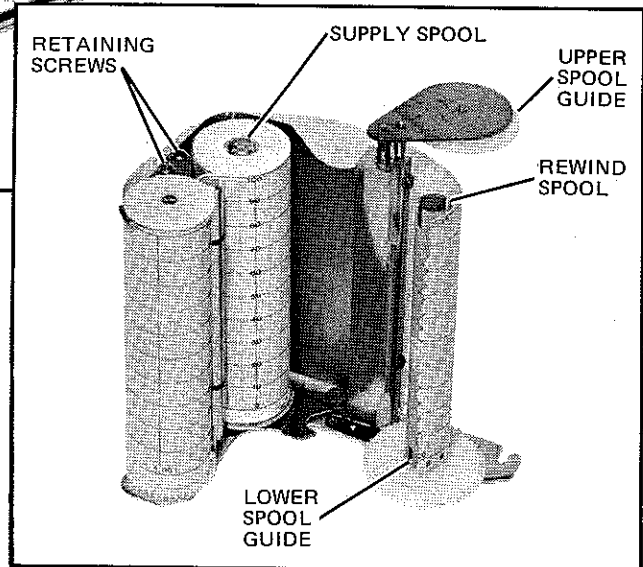

FIGURE 5 Chart Installation
5. Install a new chart roll and thread it as shown in Figure 5.
1. Loosen the two retaining screws identified in Figure 5. The timing drum can now be moved slightly in any direction.
9. Install a new chart roll and thread it as shown in Figure 5.